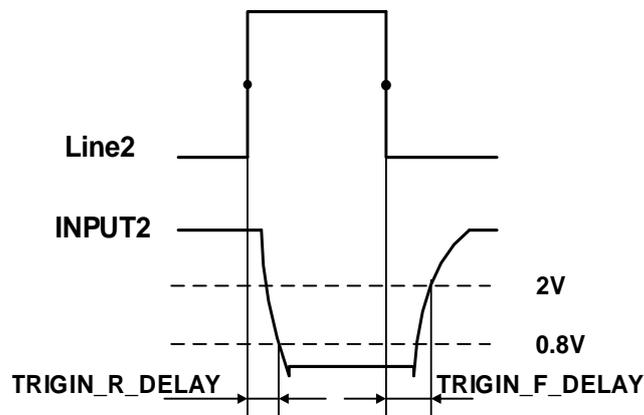

Figure 7-29 Parameter of Line2/3 input circuit
- Input rising time delay: <math>< 2\mu\text{s}</math> (0°C~45°C), parameter description as shown in Figure 7-29
- Input falling time delay: <math>< 2\mu\text{s}</math> (0°C~45°C), parameter description as shown in Figure 7-29